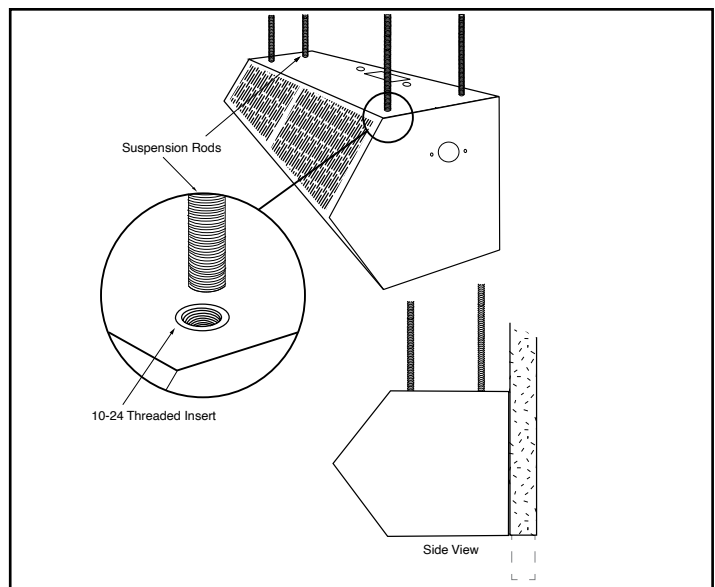

FIGURE 6 - Suspended Mounting
- B. Four (4) factory installed #10-24 threaded inserts are located on the top of the unit for top suspension mounting. **See FIGURE 6.**